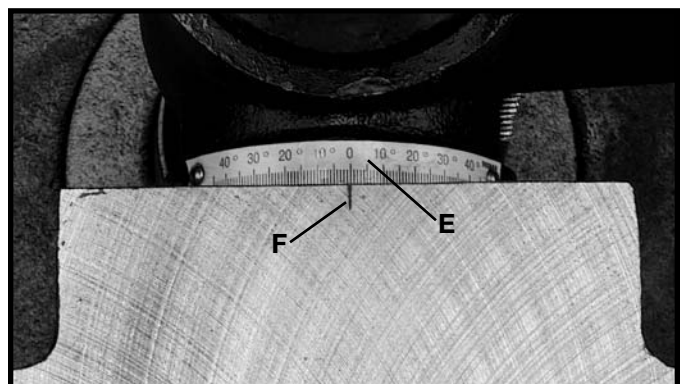

Fig. 20
4. A tilt scale (E) Fig. 20, is provided on the table bracket casting to indicate the degree of tilt. A witness line and zero mark (F) are also provided on the table to line up with the scale (E).